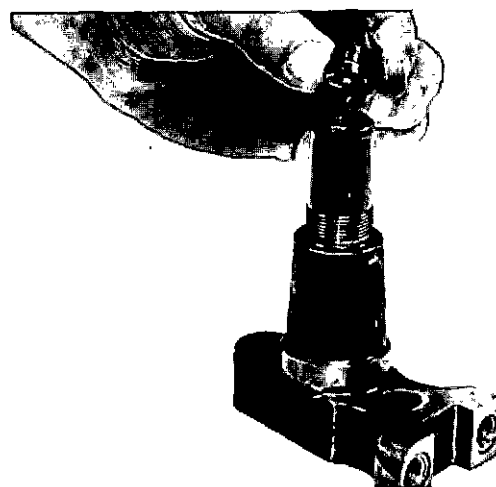

Fig. 3-5, (F60310). Remove the flanged injector cup
5. Hold the injector with the cup up and screw the cup retainer off of the adapter. Remove the cup, Fig. 3-5.